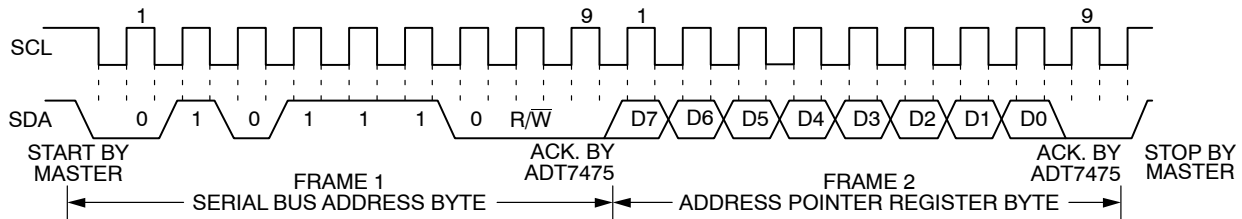

Figure 14. Writing to the Address Pointer Register Only
1. If the ADT7475 address pointer register value is unknown or not the desired value, it must first be set to the correct value before data can be read from the desired data register. This is done by performing a write to the ADT7475 as before, but only the data byte containing the register address is sent, because no data is written to the register see Figure 14.